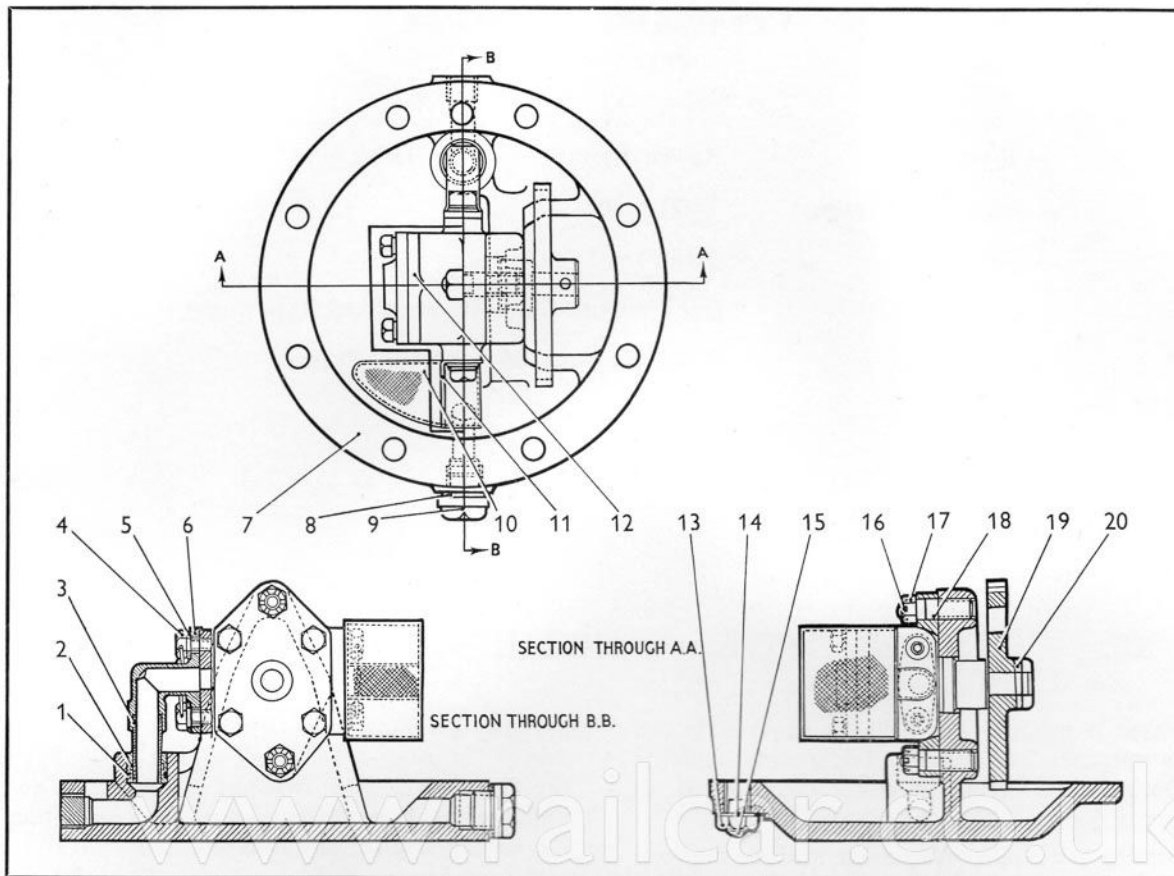

Fig. 2. Oil Pump Assembly.
(See figs. 2 and 6).
The lubrication of the whole of the unit is carried out by a rotary type bi-directional pump situated in the bottom portion of the case. The pump is driven by means of a gear (Fig. 2, Item 19) which engages with a driving gear on the axle (Fig 6, Item 34). The oil is pumped from the sump and is fed into an oil distribution pipe situated in the top portion of the
(See fig. 2).
**Removal of Oil Pump** (See fig. 2).
**Replacement of Oil Pump** (See fig. 2).